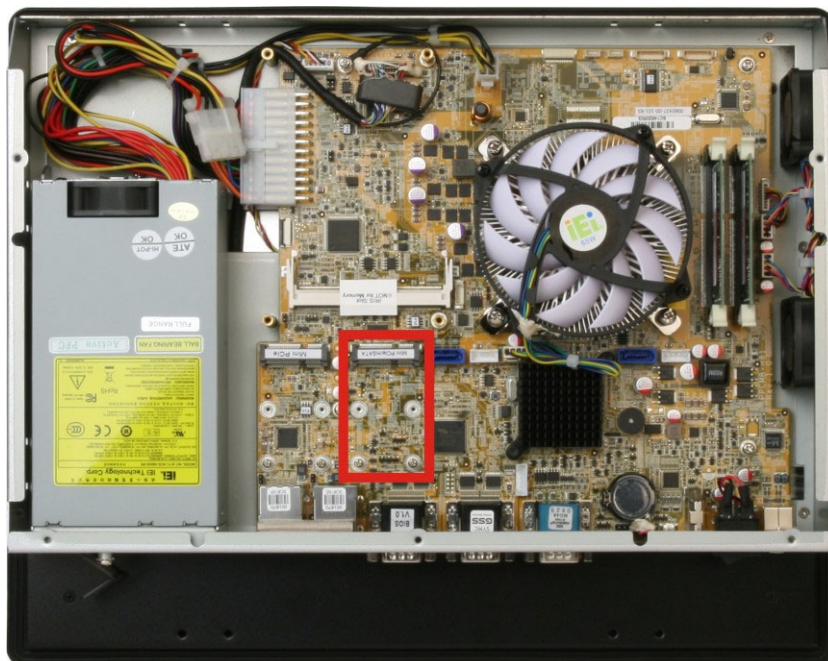

Figure 3-12: PCIe Mini Card Slot which supports mSATA
Step 2: Locate the PCIe Mini card slot which supports mSATA. The location of the PCIe Mini card slot is shown in **Figure 3-12**.